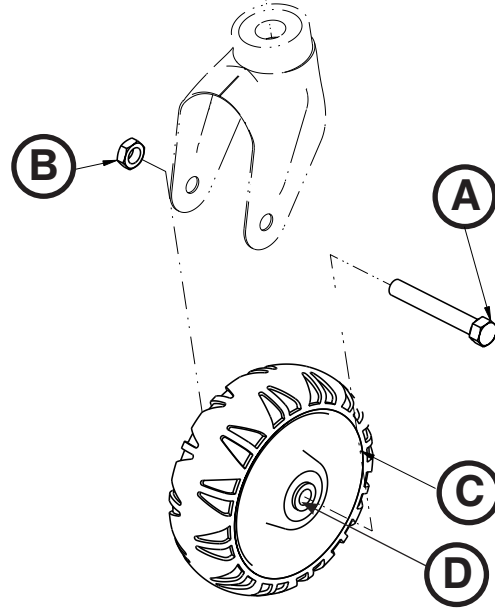

Figure 30: Cot Wheel without Wheel Covers
2. Using a 5/8" socket with 3/8" drive ratchet and a 11/16" combination wrench, remove the hex head cap screw (A) and nut (B) that secure the wheel (C) to the caster horn (Figure 30) on the patient right side at the foot end of the cot that is to be used with the installed wheel guide assembly. Save the screw for reinstallation. Discard the nut.
3. Remove the two bushings (D) from the wheel (Figure 30). Discard both bushings.